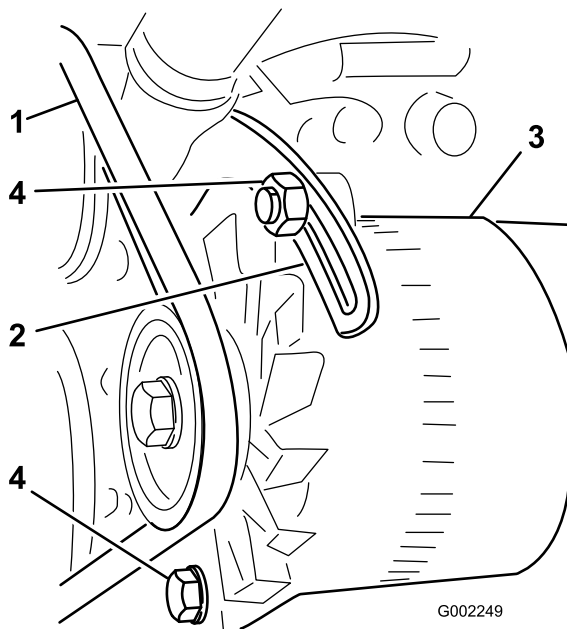

Figure 139
3. Loosen the bolt at the pivot point of the alternator; loosen the bolt that secures the alternator to the slotted brace (Figure 139).